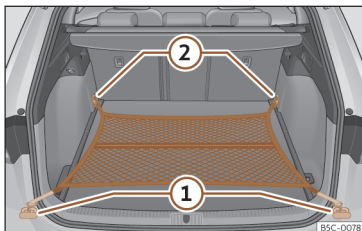

Fig. 128 In the luggage compartment: net bag hooked up at floor level.
- Secure the net hooks to the fastening rings ① and ②»» Fig. 128 »» ⚠. The bag zip should be facing upwards.